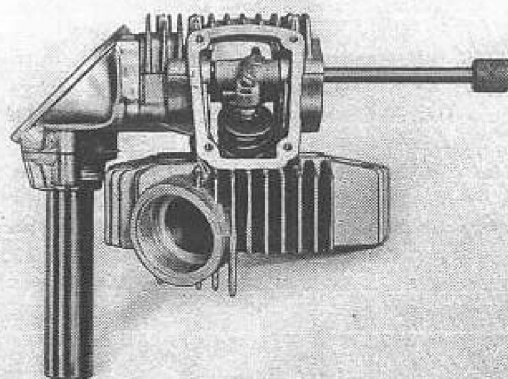

Fig. 94
Per le prove di spessorazione usare l'attrezzo 88713.0262 (vedi fig. 94).
- 6) Fit the rockers, being careful to place thickness washers on sides, so that axial play is avoided: rocker slippers must perfectly center the valve stem. To check this operation, special tool no. 88713.0262 should be used (see fig. 94).